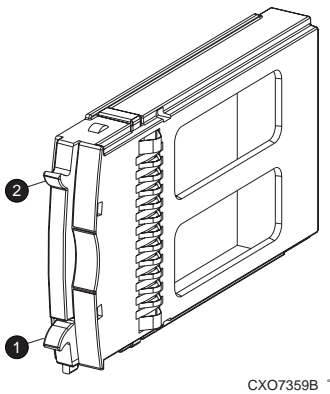

Figure 8 Removing the drive blank
1. Grasp the drive blank by the two mounting tabs (see Figure 8).